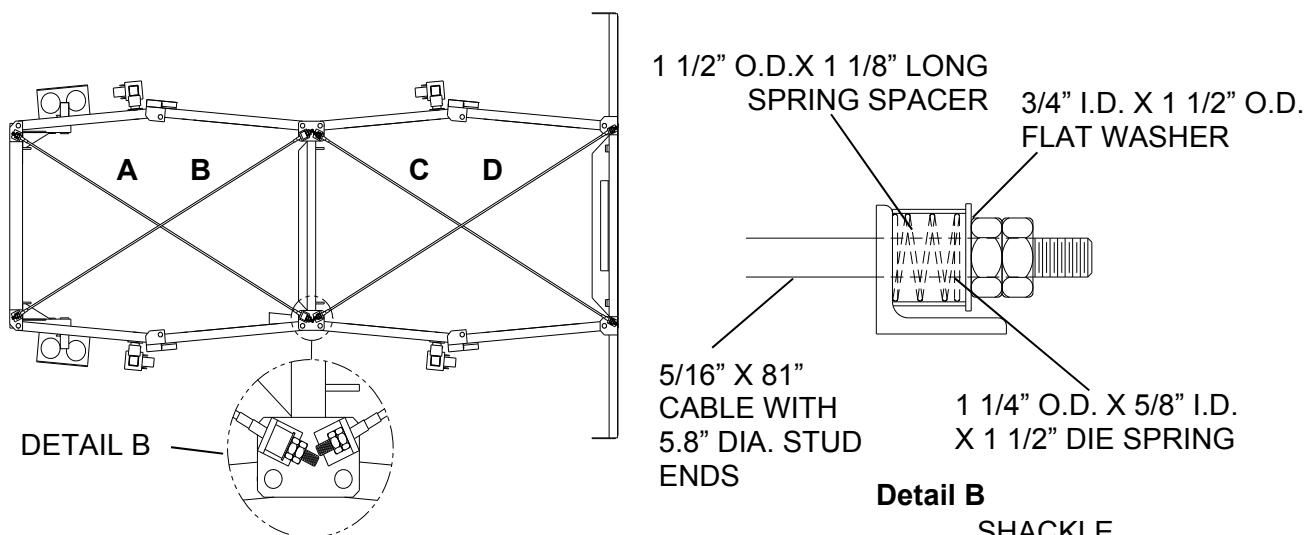

Figure 21 (Support Frame not shown for clarity)
There are four Alignment Cables (two for each bay). Attach the Alignment Cables as shown in Figure 21. Measure the diagonals of each bay and adjust the cables so that the diagonal measurements in each bay are the same within the given tolerance ( $A = B \pm 5$  mm [ $3/16"$ ],  $C = D \pm 5$  mm [ $3/16"$ ]) and taut. Cables are "taut" when they deflect 38 mm - 50mm [ $1\frac{1}{2}"$  -  $2"$ ] when pressed by hand at the center.
**Important:** The Die Springs, Spring Spacers, and flat washers (Figure 21 and Detail B) are only used at mid-frame, on the front two Top Cables, i.e. the two cables closest to the truck.